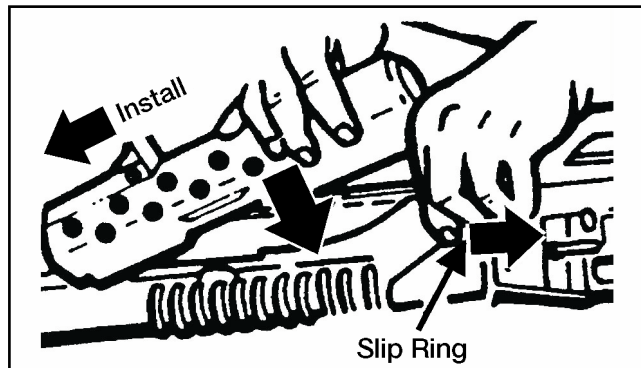

Figure 071-311-2125-9. Installing the handguards
- d. Install the quadrant sight (figure 071-311-2125-10).